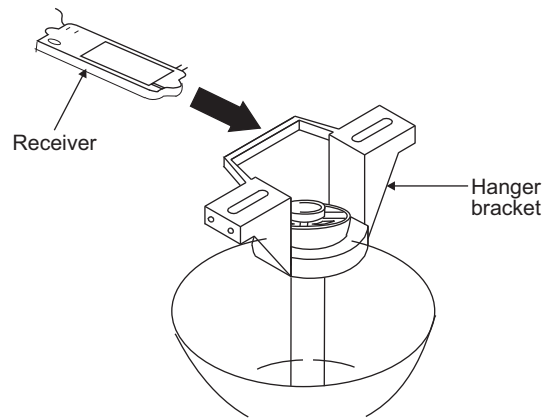

Figure 10
Step 1. (Figure 10) Insert the receiver into the mounting bracket with the flat side of the receiver facing the ceiling.